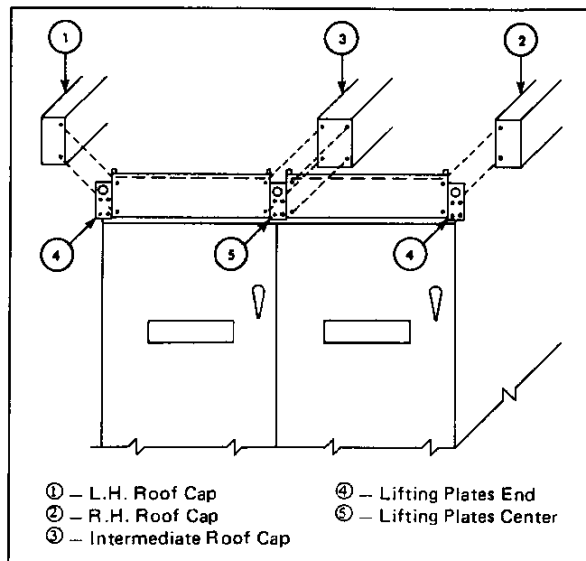

Fig. 3 Installation of Roof Caps on Outdoor Units
- Remove bolts from the front and rear ends of the WLI roof structure (see Fig. 3).